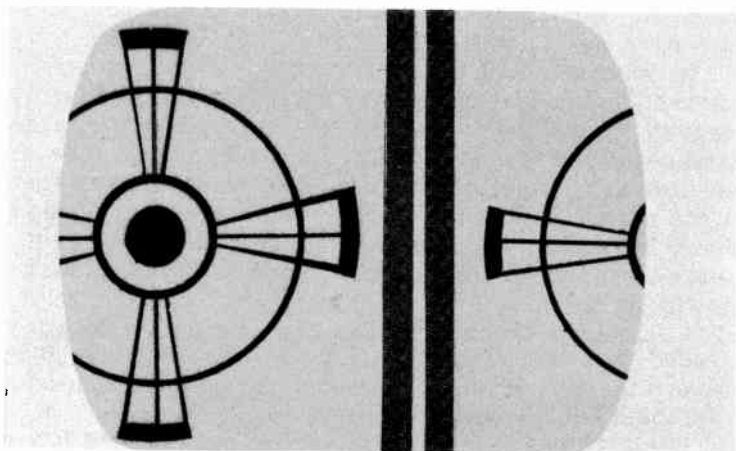

Fig. 6-10. Sketch illustrating horizontal shift.
**Shifting:** What seems like a vertical split down the middle of the picture with the right-hand half on the left and vice versa, often accomplished by a very thin, faint picture, (see Fig. 6-10).